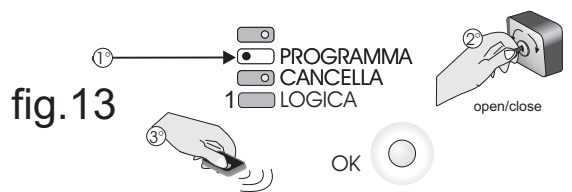

fig.13
- 1- place dip n 3 in ON position (see fig.13)